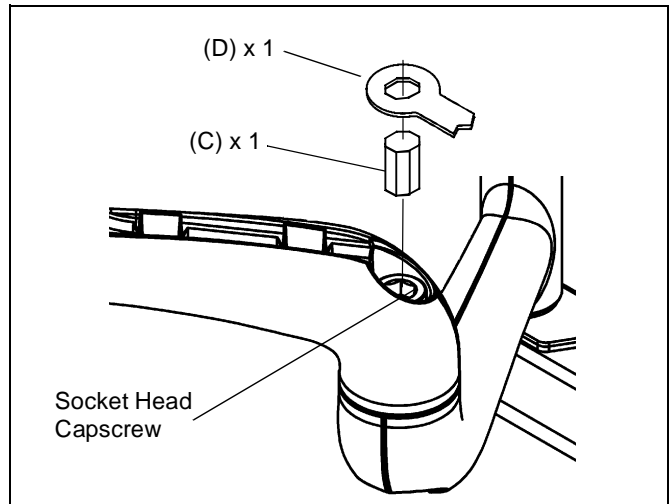

Figure 11
1. Locate the adjustment bar (H) and adjustment wrench (J).
2. Place adjustment bar (H) into socket head cap screw located at swing arm pivot point. (See Figure 11)